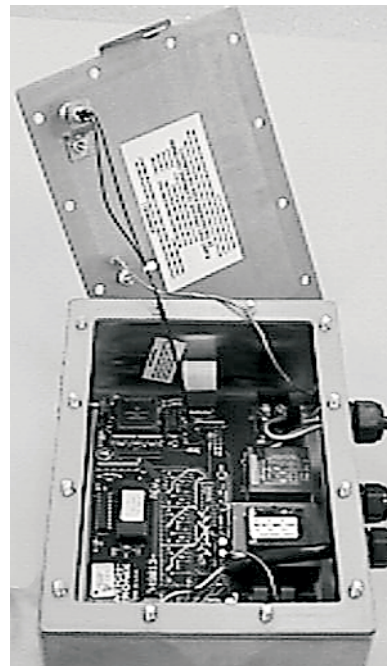

Figure 12
2. Lay the head face down and remove the back plate. See Figure 12. Take care not to stretch or break the wires connecting the back plate and pc board. Disconnect these wires.